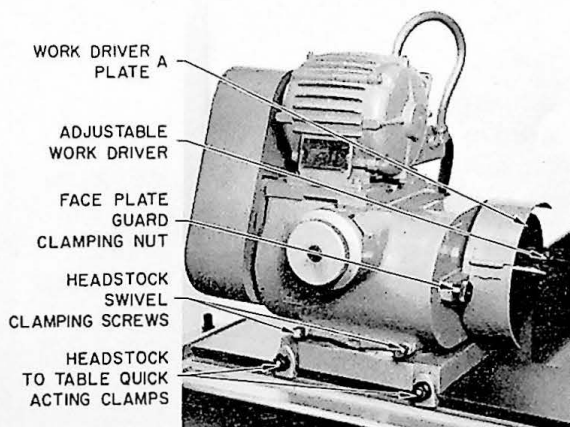

Figure 31
1. Remove work drive plate "A" (Figure 31) which is held in place by three socket head set screws.